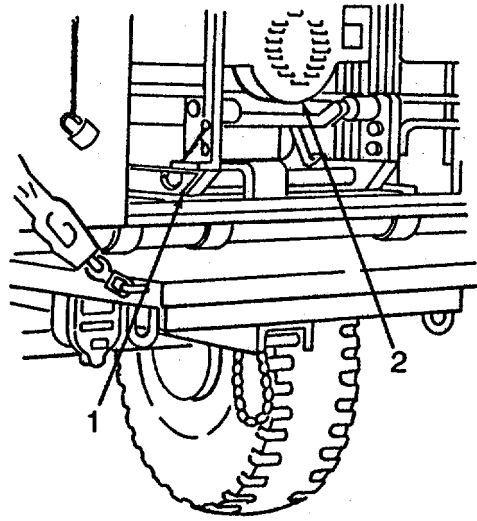

Figure 1-3
- (6) Two slide tracks (1, fig. 1-3) on the sides of the generator set (2, fig. 1-3).